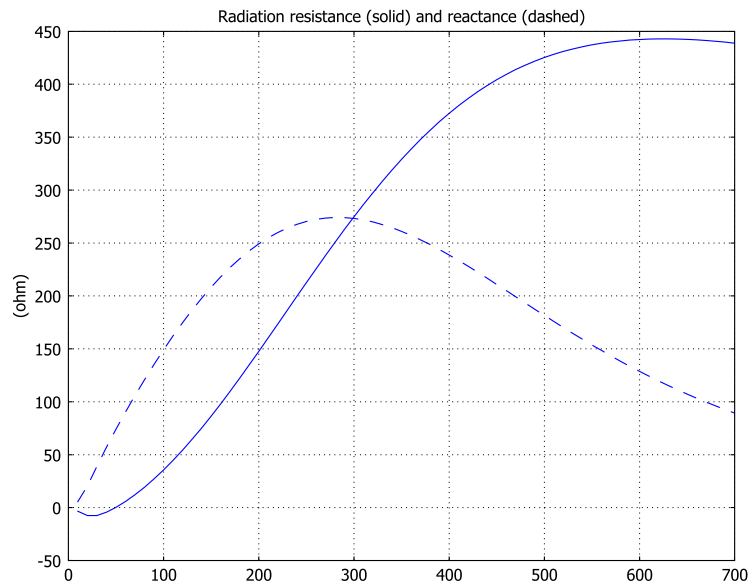

Figure 4-8: Radiation resistance and reactance at the opening of the pipe.
- 5 In the **Expression** field type  $\text{imag}(zL)$ , then click **OK** to reproduce the plot in Figure 4-8.